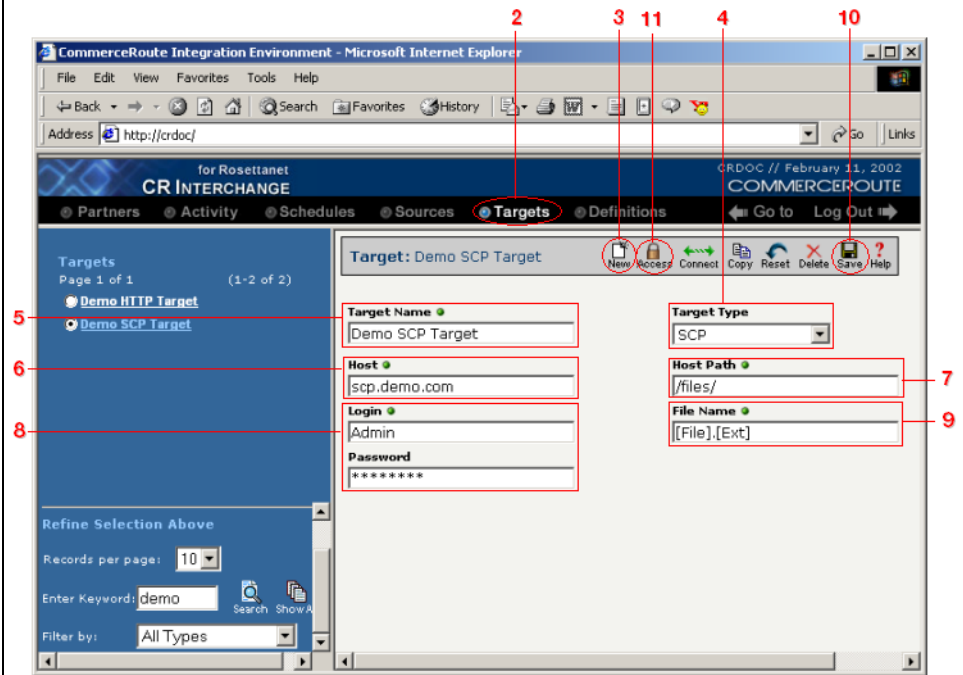

Figure 8-7. Follow the steps listed above to successfully define a new SCP target.
Follow these steps to create a new SCP target definition. Each step is marked in Figure 8-7 below.
- ❶ Log in to the CR Interchange environment (see “Log In to the Tour” on page 2-2 for details).
- ❷ Click on the **Targets** button in the main navigation bar at the top of the screen.
- ❸ Click on the **New** button in the toolbar to create a new target definition.
- ❹ Select “SCP” from the **Target Type** drop-down menu.
- ❺ Enter a unique name for your source definition in the **Target Name** field.
- ❻ Enter a valid SCP server location in the **Host** field.
- ❼ Enter a valid root location in the **Host Path** field. The path should start and end with a “/”, like in /catalogs/.
- ❽ Enter an appropriate login and password for the SCP server in their respective fields.
- ❾ Enter the file name(s) (such as `BillofSale.txt`) that will contain your target information in the **File Name** field.
- ❿ Click the **Save** button in the toolbar. Compare your definition to that shown in Figure 8-7 below.